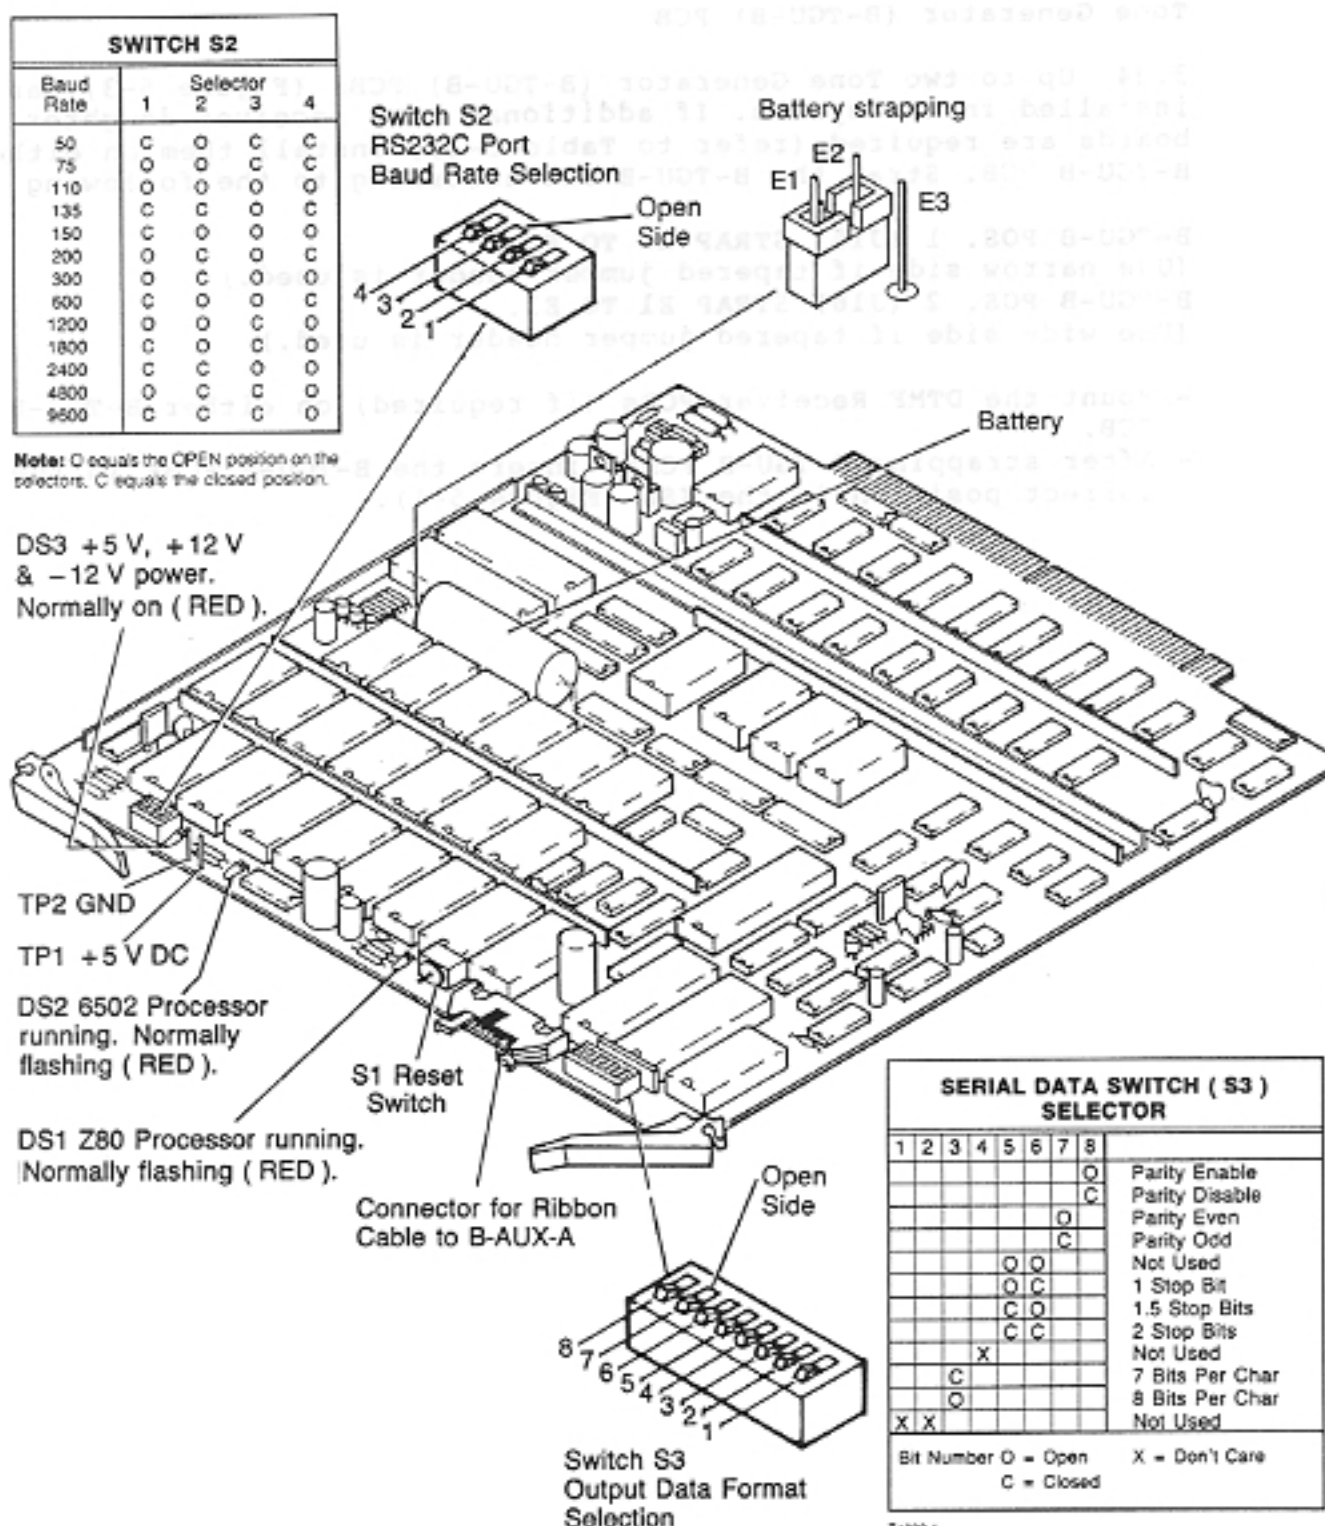

Figure 5-2 CENTRAL PROCESSING UNIT (B-CPU-B) PCB, TCX-128
3.22 Before the B-CPU-B PCB (Figure 5-2) is installed in the KSU (and before the system is programmed), the Baud Rate Switch (S2) and the Serial Data Switch (S3) must be set to match the requirements of the programming terminal.
- To set the switches, refer to Figure 5-2.
CAUTION: MAKE SURE THE B-CPU-B PCB IS STRAPPED FROM E1 TO E2 (FIGURE 5-2). IF THE PCB IS NOT STRAPPED E1 TO E2, THE SYSTEM WILL INITIALIZE EACH TIME THE POWER IS TURNED ON OR OFF. INITIALIZATION RETURNS ALL PROGRAMMED ENTRIES TO DEFAULT. A FULLY CHARGED BATTERY WILL HOLD USER-PROGRAMMED MEMORY FOR UP TO 10 DAYS.